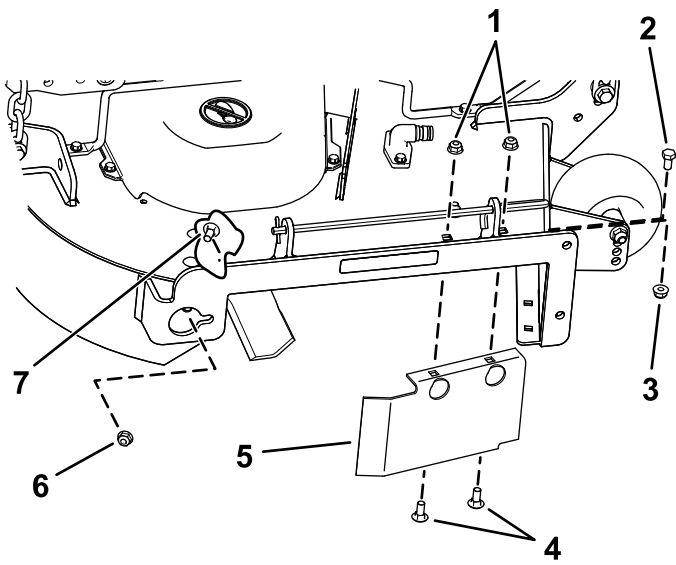

Figure 35
- Remove the carriage bolt (5/16 x 3/4 inch) and locknut (5/16 inch) on the rear wall of the mower deck securing the baffle to the deck (Figure 35).
9. Locate the baffle guard at the front edge of the side discharge opening (Figure 35).
10. Remove the fasteners securing the baffle guard and the right baffle to the mower deck (Figure 35).
13. Install the fasteners removed previously at the front holes in the discharge plate and forward hole in the deck (Figure 35).